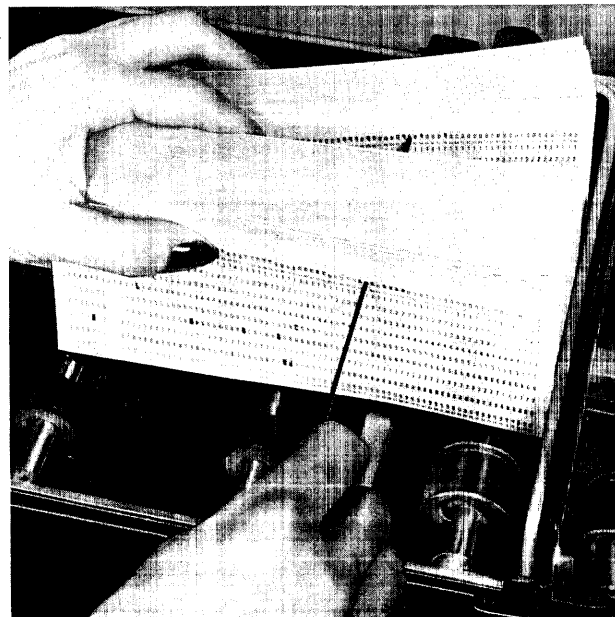

Figure 14. Using a Sorting Needle
*Using a Sorting Needle:* Figure 14 shows how to use a sorting needle to locate missorted cards. A missorted card blocks the needle and can be removed.